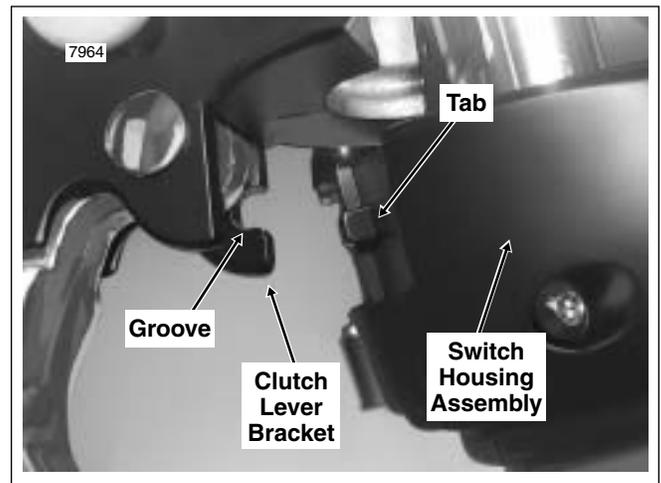

Figure 8-94. Fit Clutch Lever Bracket to Left Handlebar Switch Housings
5. Position the clutch hand lever assembly inboard of the switch housing assembly engaging the tab on the lower switch housing in the groove at the bottom of the clutch lever bracket. See Figure 8-94.